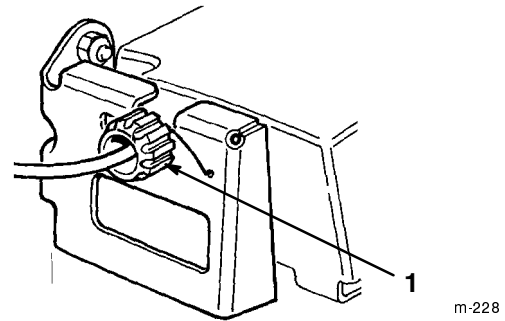

Figure 28
1. Rotate the control knob clockwise $\frac{1}{2}$ turn if the lawn mower does not self-propel. If the lawn mower creeps forward, rotate the knob $\frac{1}{2}$ turn counterclockwise to loosen the belt (Fig. 28).